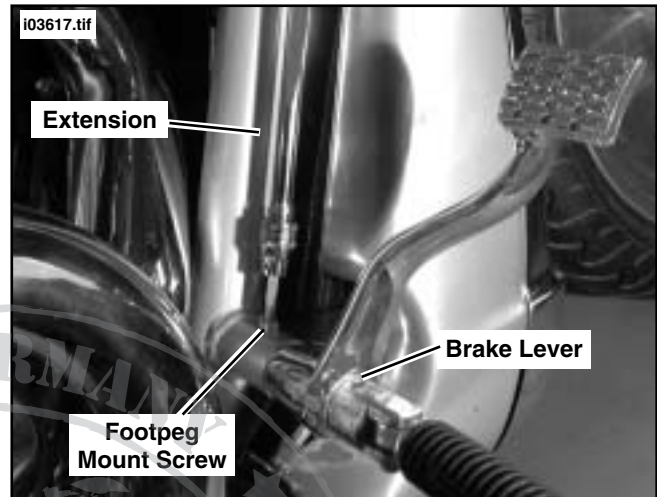

Figure 1. Remove Right Footpeg
1. See Figure 1. On right side of motorcycle, remove screw securing existing footpeg mount and slide mount out through brake lever. Save screw for re-installation.